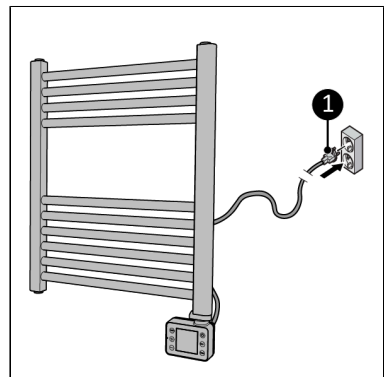

Figure 11.
2. Place the power plug into a wall socket (Figure 11, pos. 1) that is easily accessible. Use a wall socket with a minimum power of 1000 Watt.